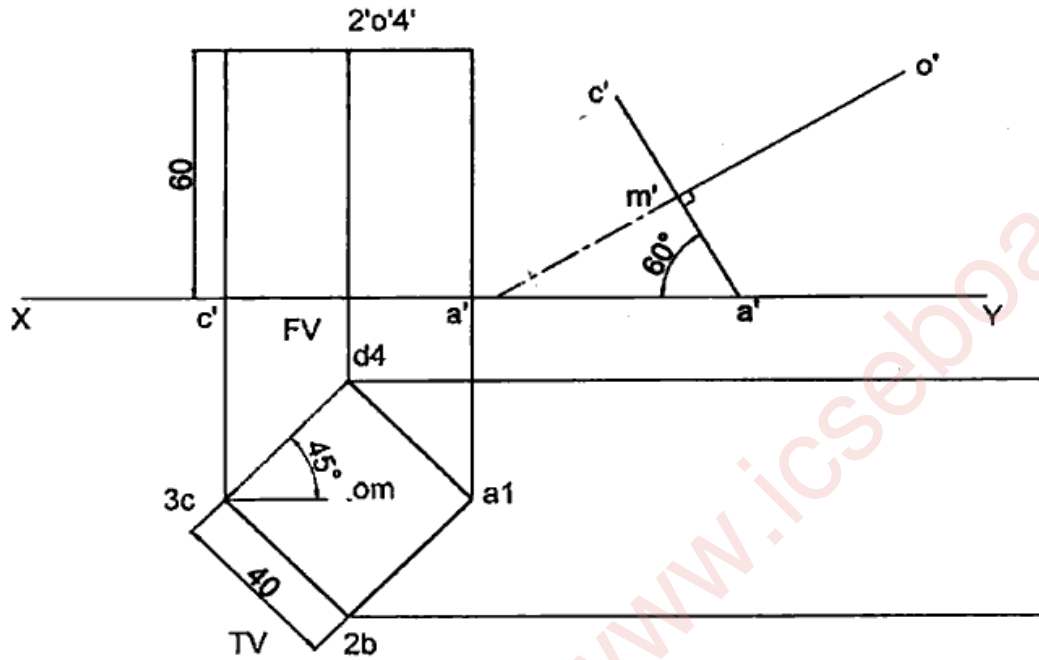

Figure 5
- (iii) **Figure 5** given below shows the Top View of a square base prism in first angle, [15]